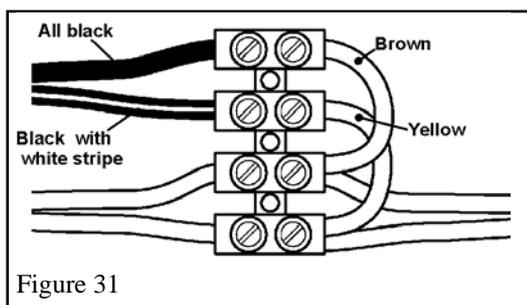

Figure 31
- Securely connect the wires to the terminal block. **Connect the black wire to the terminal opposite the brown wire. Connect the wire with the white stripe to the terminal opposite the yellow wire.** See figure 31.